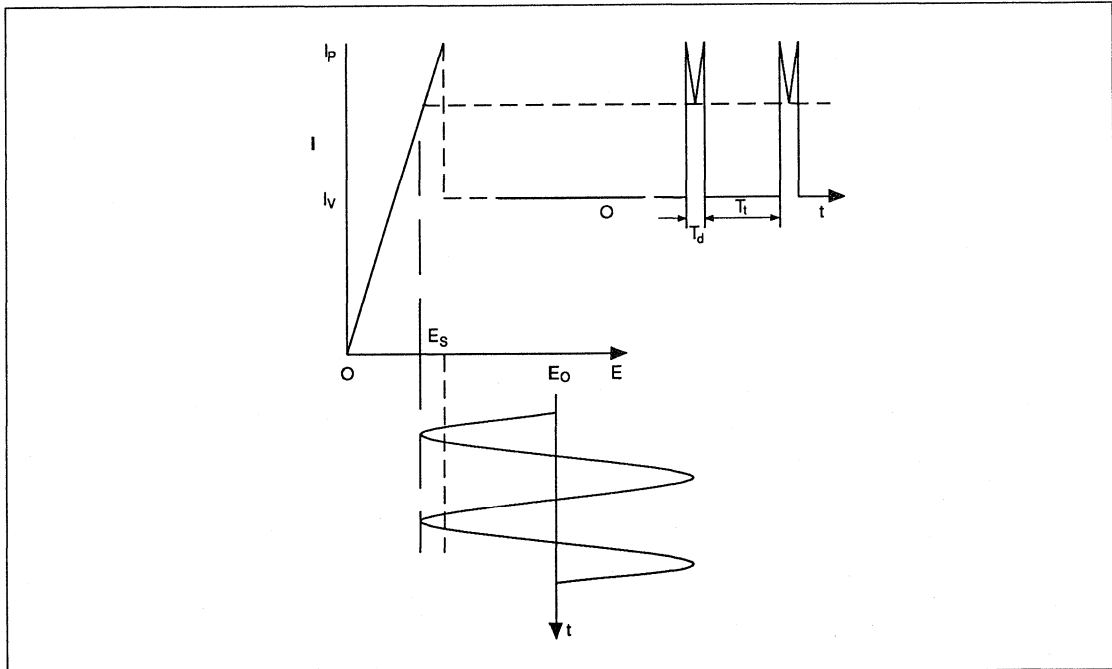

Figure 5. Current and field waveforms for delayed domain mode
Better efficiency and stability can be achieved by operating the Gunn device in the Delayed Domain Mode. Fig. 5 shows the basic voltage and current wave shapes for this mode of operation.
- (1) Total electric field across the device is below the critical field E_s over a part of the RF cycle (Fig. 5).
- (2) Current waveforms consist of broad spikes indicating low harmonic content and higher efficiency at fundamental.
- (3) RF field across the device is large indicating high impedance.
- (4) Operating frequency is determined mainly by the resonant frequency of the external circuit and can be made very stable. Also a device can be used over a much broader bandwidth below the transit time frequency.